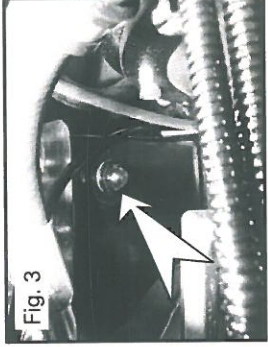

Fig. 3
- Level is correct when visible in sight gauge (Fig 3).